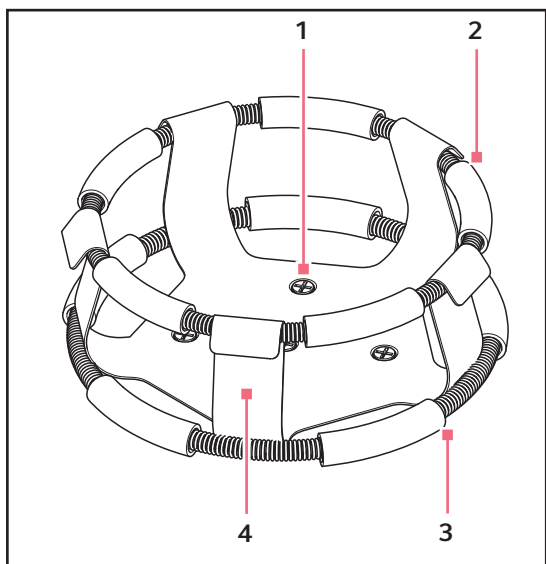

Fig. 4-2: Double Girdle Clamp Installation
2. With the first girdle in place, as delivered, on the upper part of the clamp body (see Fig. 4-2 on p. 28), insert an empty flask into the clamp.